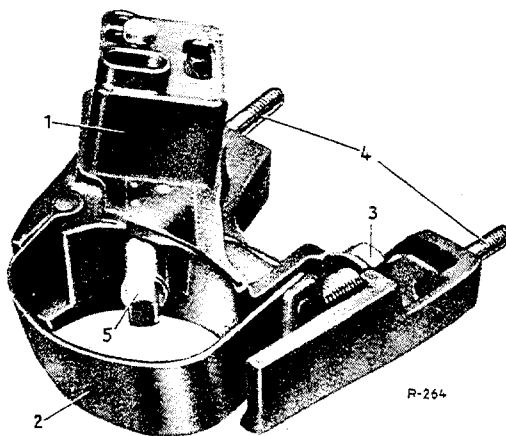

Fig. L 7/1
4. Back out the grub screw (4) in the steering column jacket (see Fig. L 7/2).